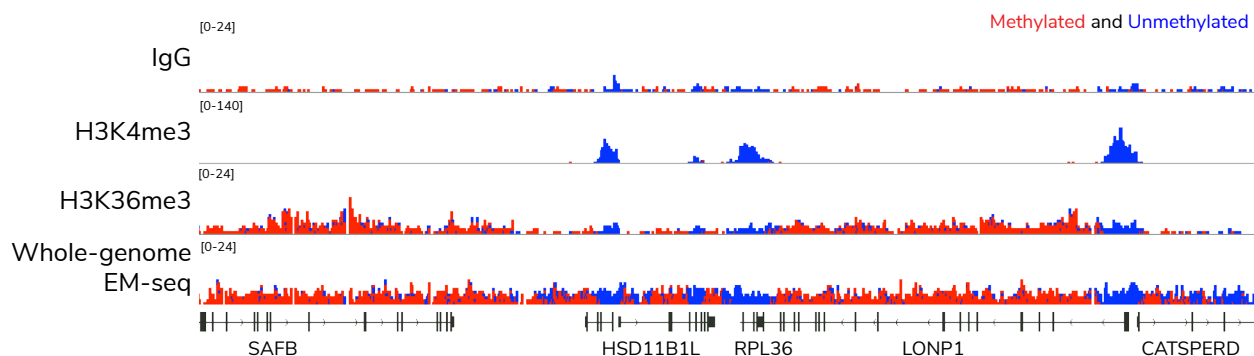

FIGURE 11
- Representative results are shown in Figure 11. Whole genome EM-seq is shown for comparison.